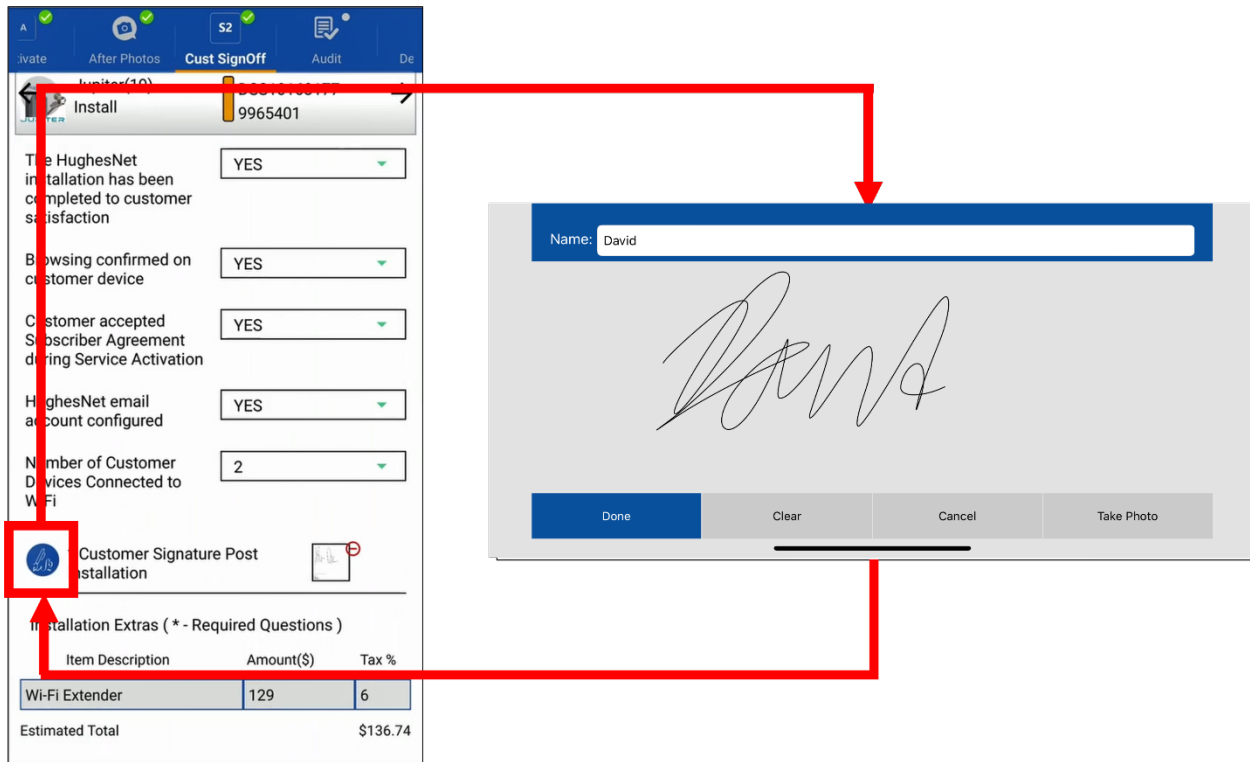

Figure 88: Customer Signature Post Installation
3. Tap the Customer Signature Post Installation icon (outlined in Figure 88). The customer must sign off on the installation the same way they did for the PreSign step.
4. In the signature screen that displays, the customer must sign their name on the screen and type their name in the *Name* field (see Figure 88). This signifies their approval of the completed installation.
6. OASIS navigates back to the Customer SignOff step, where the customer’s signature now appears (see Figure 88). The signature is saved as an attachment on the FSO.